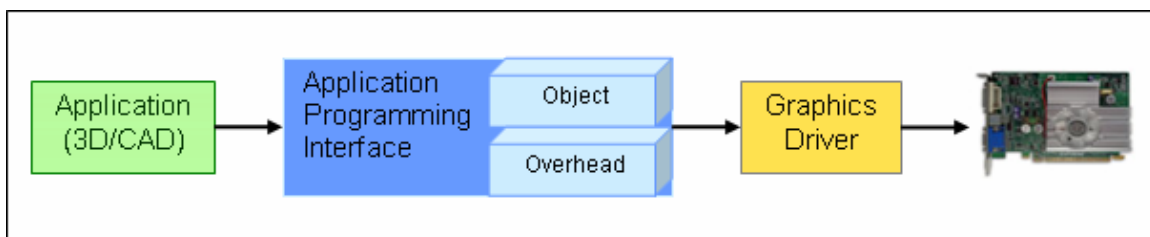

Figure 2. DirectX 8/9 Graphics API Interface
- As Figure 2 illustrates, all DX8/9 functional or runtime calls from an application to the graphics hardware were done by the CPU (once per object), causing CPU bottlenecks whenever many objects need to be rendered for the current frame. The high API overhead also limits the number of objects per scene, causing potential loss of detail in each frame.